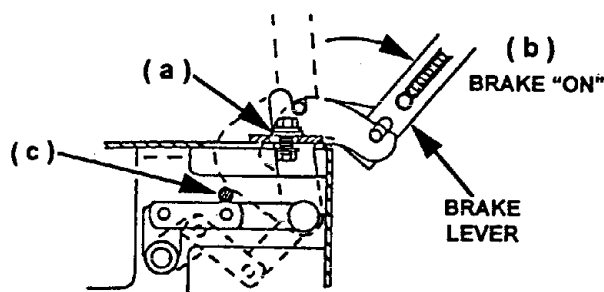

FIG. 7
- c) Check linkage to ensure that they butt up against the over-centering stop bolt (c), and retighten the two 5/16-18 screws (See Figure 7).